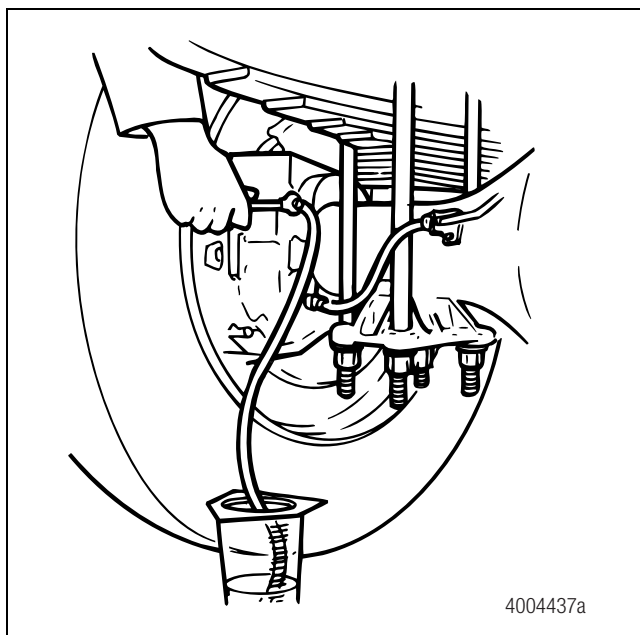

Figure 10
- C. Use a wrench to open the bleeder fitting screw. Figure 10.
- C. Use a wrench to open the bleeder fitting screw. Refer to Figure 10.